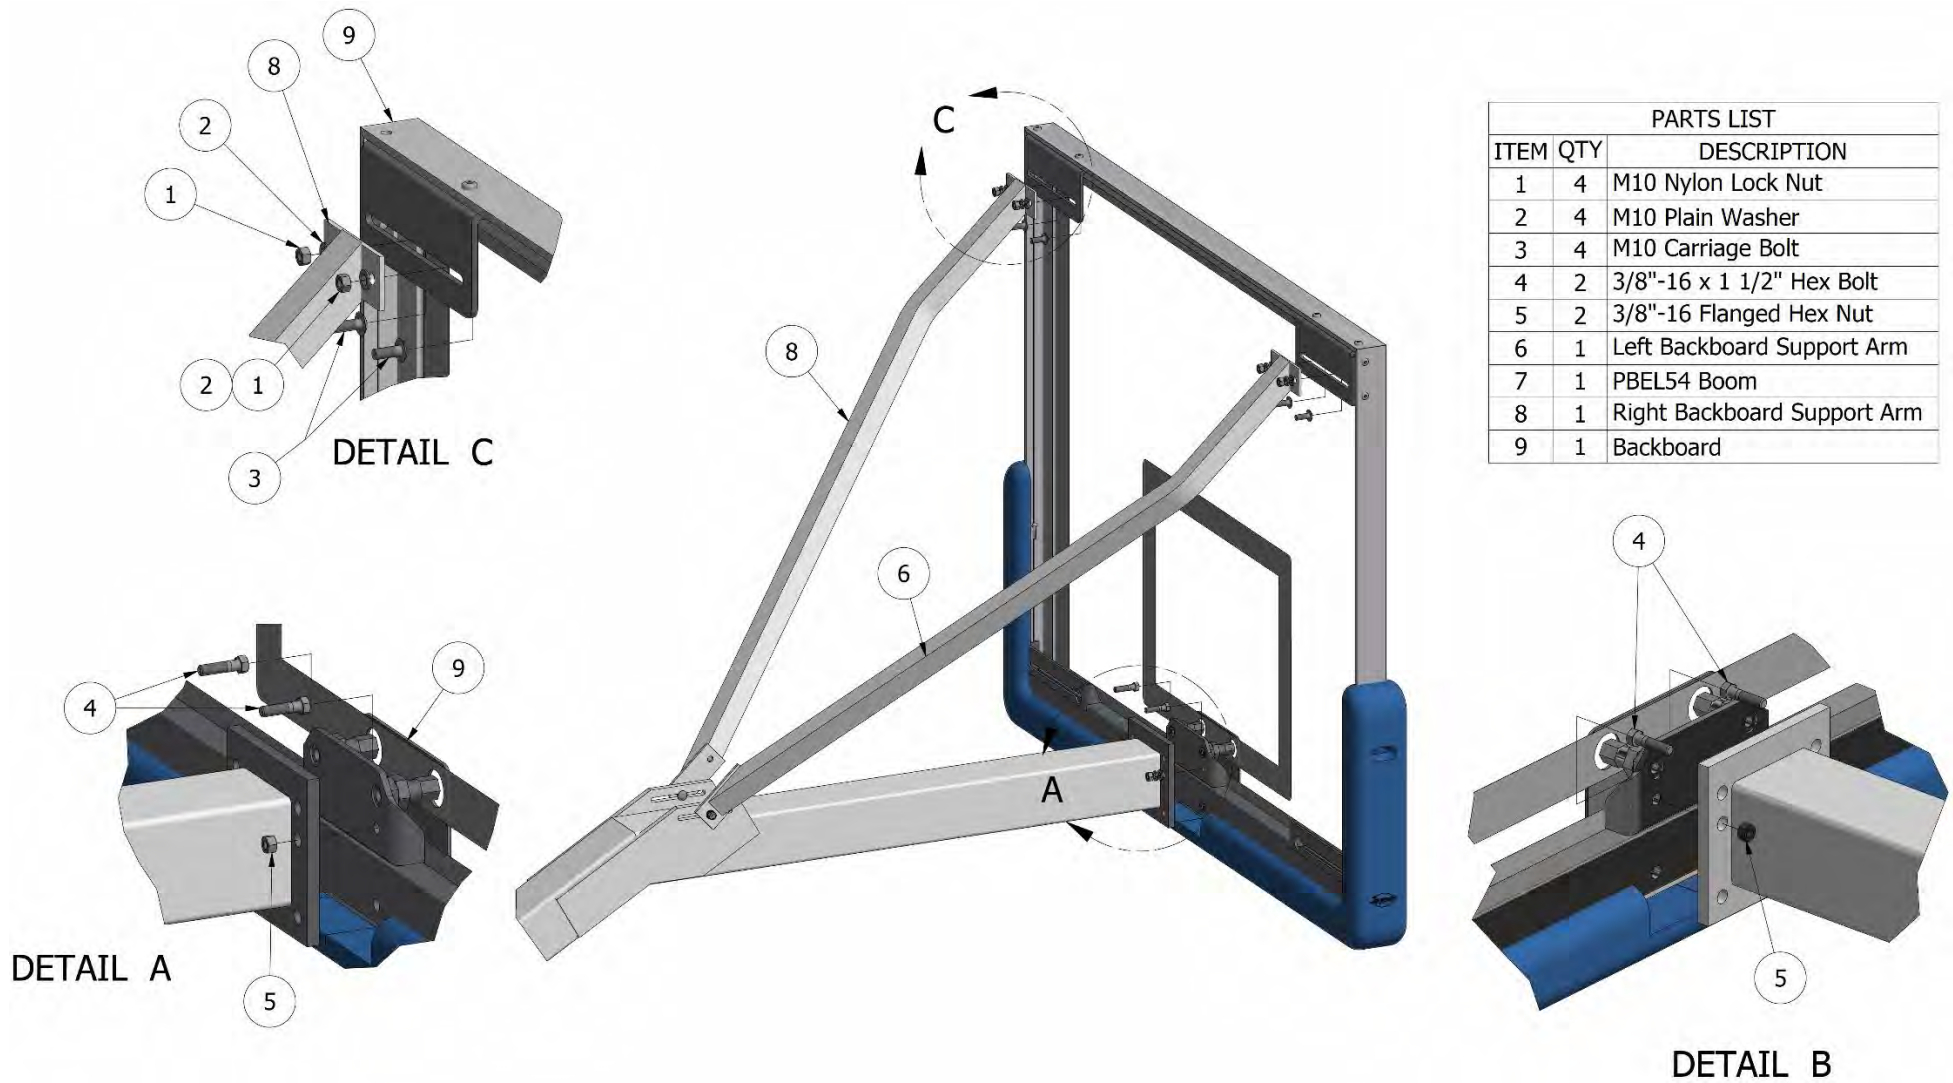

Figure 7-6: Installation of backboard to boom.
6. Insert 3/8"-16 x 1 1/2" hex bolts (2X), 3/8" flange hex nuts (2X) into middle row of holes in backboard mount (Figure 7-6, details A & B).
7. Attach the backboard support arms to the slots in the top of the backboard frame using the M10 carriage bolts (2X), M10 split washers (2X), M10 flat washers (4X), and M10 flanged nuts (2X) as shown in Figure 7-6 (detail C). Hand-tighten the nuts.